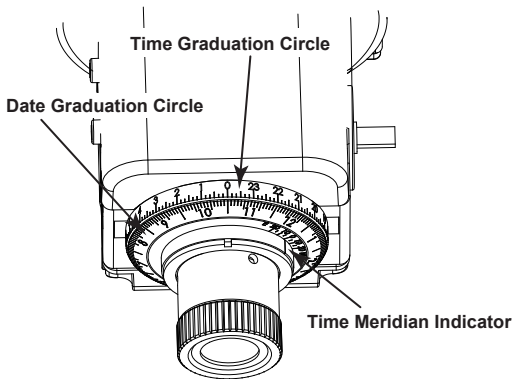

Fig 28
2. Then rotate the **Date Graduation Circle** to align Oct 31 to the 0 of the **Time Graduation Circle** and turn the **Eyepiece/Mounting Platform** to align the **Time Meridian Indicator** to the 0 of the **Time Meridian Circle** (Fig 28). This is the date and time when the orientation of Polaris is directly below the north pole (6 o'clock).